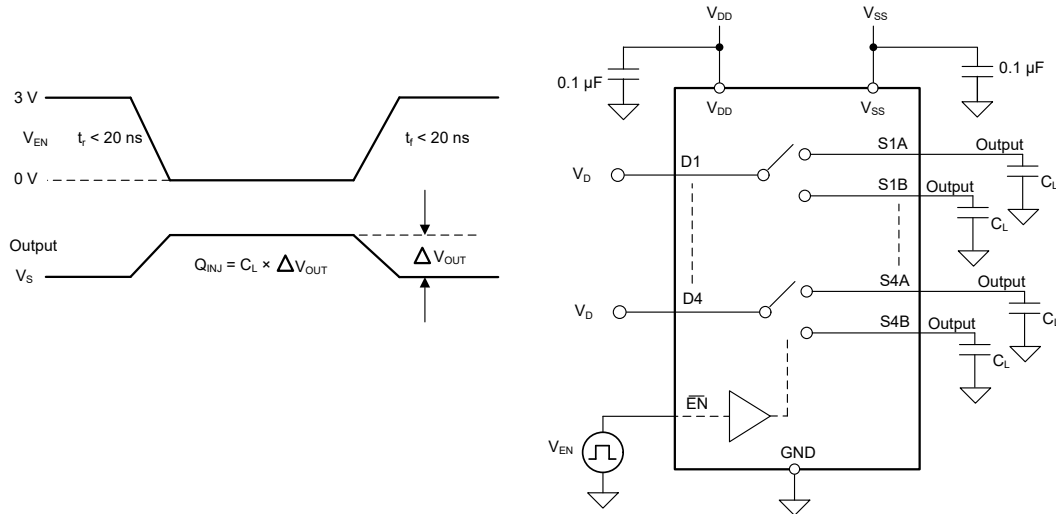

Figure 7-9. Charge-Injection Measurement Setup
The TMUX7234 has a transmission-gate topology. Any mismatch in capacitance between the NMOS and PMOS transistors results in a charge injected into the drain or source during the falling or rising edge of the gate signal. The amount of charge injected into the source or drain of the device is known as charge injection, and is denoted by the symbol Q_{INJ} . Figure 7-9 shows the setup used to measure charge injection from source (Sx) to drain (D).